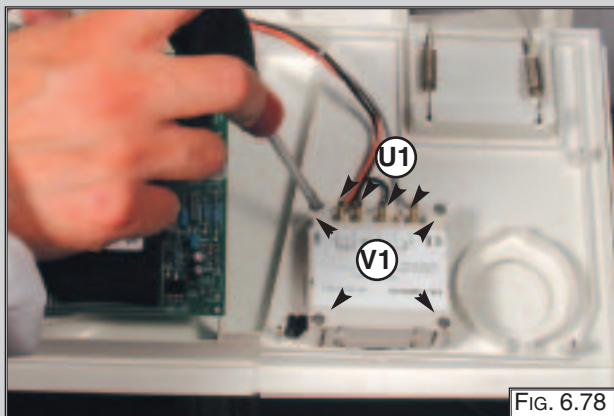

FIG. 6.78
1. Disconnect the electrical connections "U1" from the clock (FIG. 6.78);
2. Remove screws "V1" (FIG. 6.78);